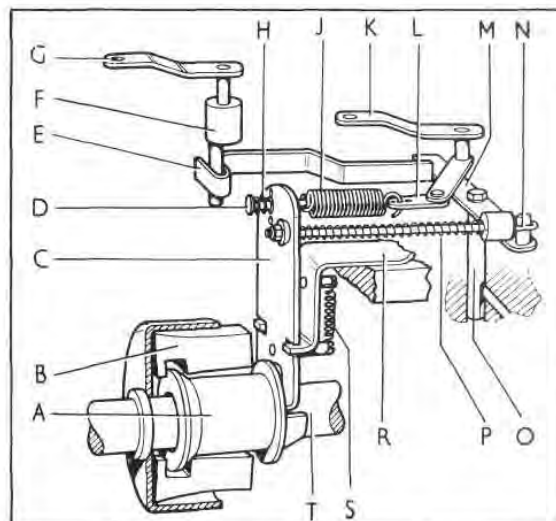

Fig. D15 — Mechanical Governor Control Mechanism
The governor mechanism is shown in detail in Fig. D15. Movement of the governor weights (B) causes the control sleeve (A) to move axially along the drive shaft (T). The governor control arm (C) is free to pivot about a fulcrum provided on the control bracket (R) and is held in contact with the end face of the thrust sleeve by spring tension. A spring-loaded hook lever (N) connects the upper end of the governor control arm with the lever (M) which is secured to the metering valve (O). Any movement of the governor weights in response to fluctuations of engine speed results in movement of the metering valve and a corresponding change of fuelling.
When starting, the throttle lever (K, Fig. D15) is put hard over, holding the metering valve in the full fuel position. As the engine fires the lever can be brought back, and the governor then operates in the idling position.